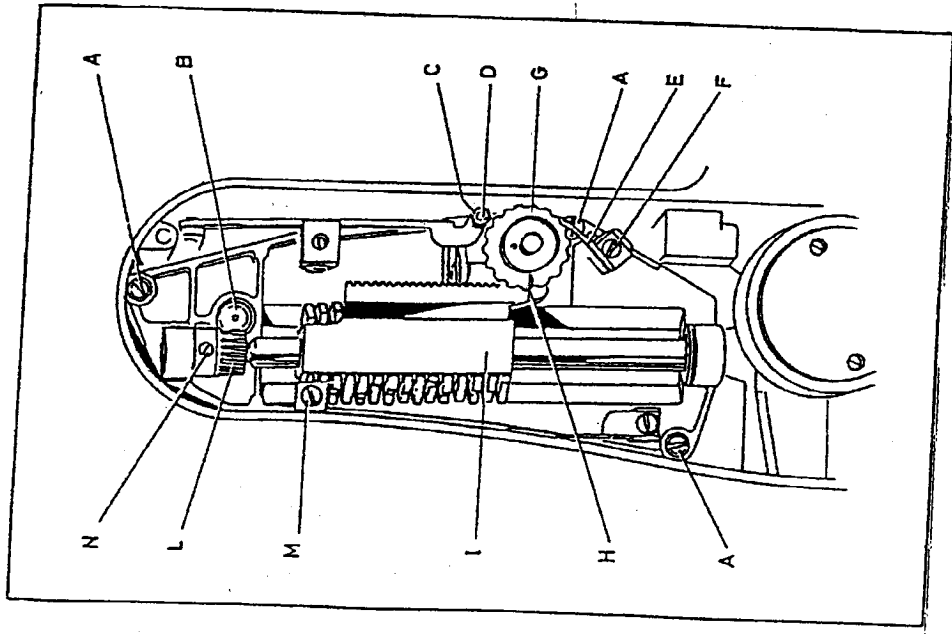

Fig. 4
If this does not occur, proceed as follows (fig.4):
- loosen the two grub screws N (fig.4) of the
11. AUTOMATIC DEVICE TIMING (fig. 4)